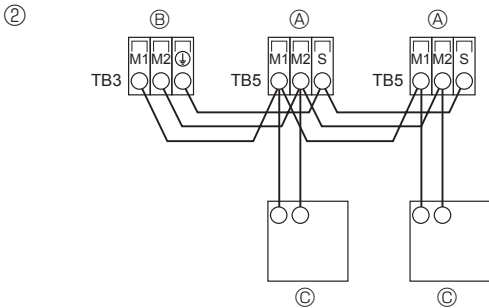

Fig. 6-4
- ② M-NET Remote controller (Fig. 6-4)